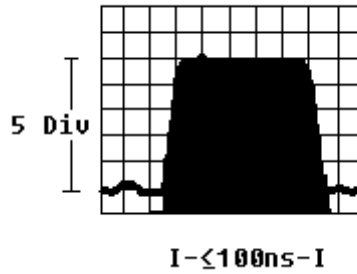

Figure 10. Pulse modulated display.
The next several tests require that you adjust the oscilloscope as necessary to obtain a centered 5 division pulse as shown in figure 10.
- (6) Adjust oscilloscope as required for centered five division pulse as in figure 10.